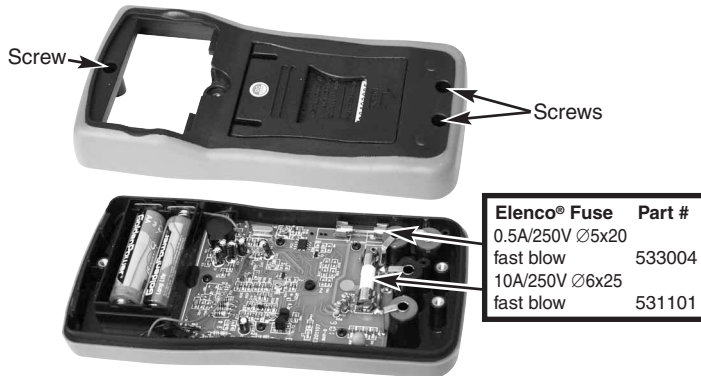
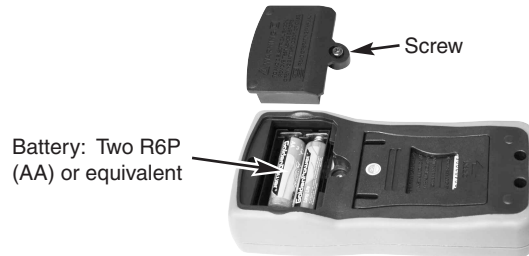

Figure 19. Fuse Replacement
Figure 18. Battery Replacement
1. Turn the Function Rotary Switch to the **OFF** position and remove the test leads from the terminals. Remove the battery cover as shown in Figure 18. Referring to Figure 19, examine or replace the meter's fuses as follows:
Replace the batteries as follows (refer to Figure 18):